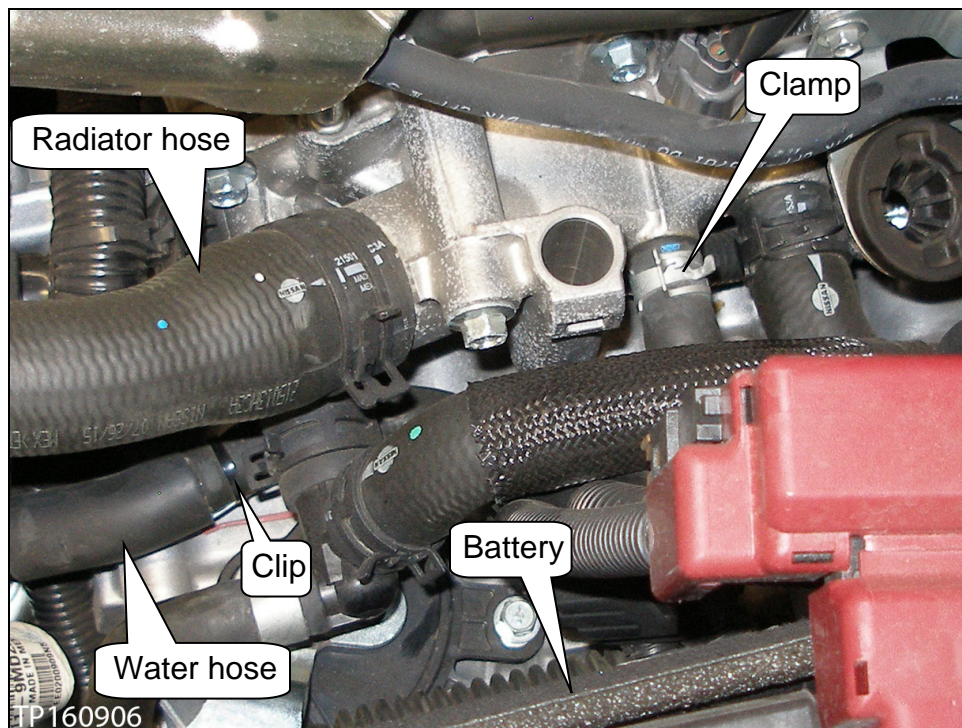

Figure 5a
6. Unfasten, or cut and unfasten the clip (see Figure 5a).
7. Unclamp the hose, and then remove the hose and bracket as an assembly (see Figure 5a).